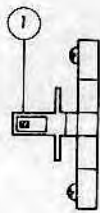
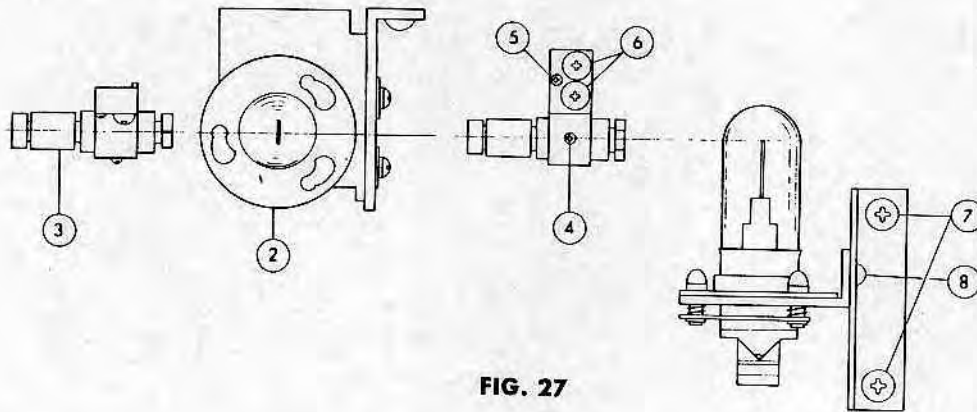

FIG. 25
FIG. 27
TROUBLESHOOTING: (Refer to Figs. 25, 26 & 27)
- a. Turn on the exciter lamp and adjust the position of sound lens tentatively by turning screws (5)(6) in Fig. 27 so as to have the focus of scanning beam on the (1) as shown in Fig. 25. The lens shouldn't touch the capstan.
- b. Adjust the position of the exciter lamp with (7)(8) so that the lamp filament is aligned with light axis of the lens as shown in Fig. 27.